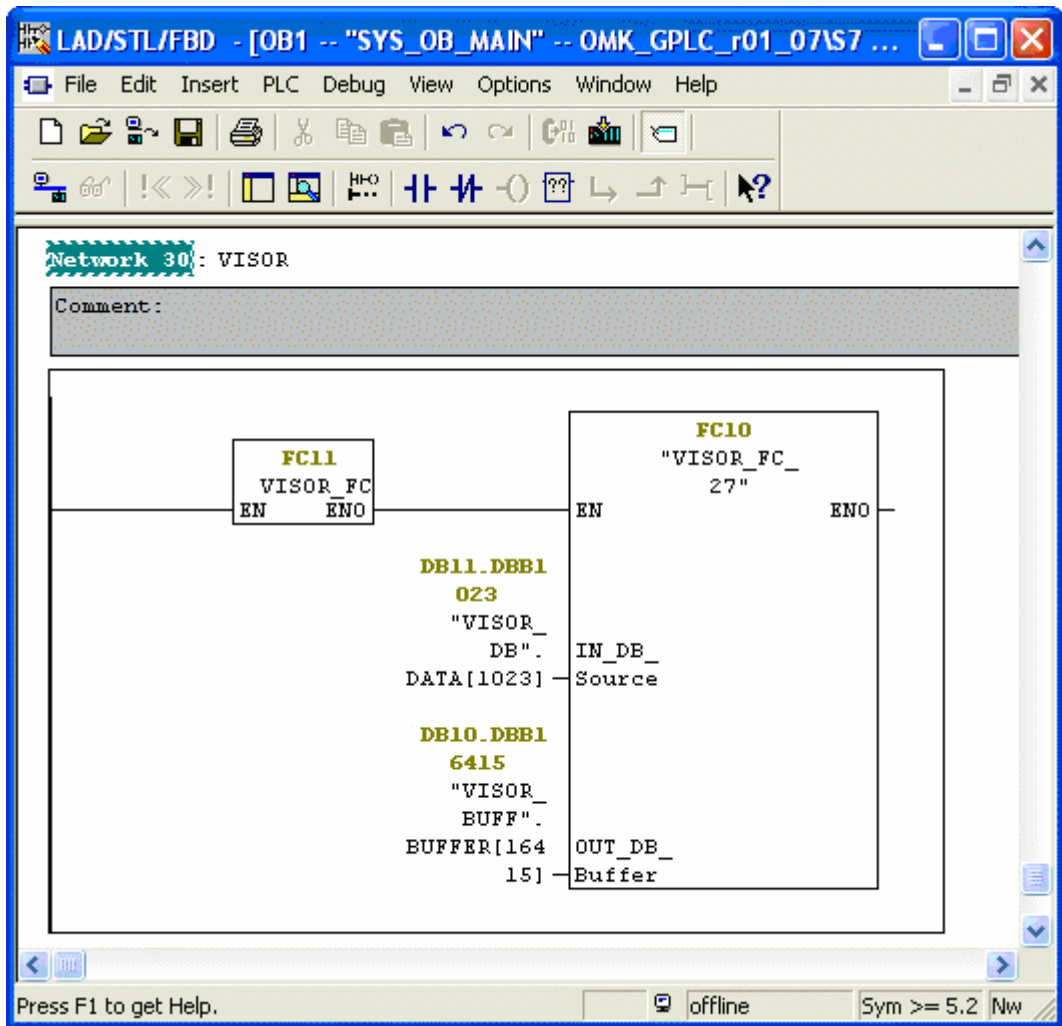

Figure 4-1. Example of functional block call for the circular buffer service
6. Create in all PLC the data block (for example DB11) and provide filling of necessary variables. If you use "SYNCHRONOUS" mode, then in addition to create in PLC the data block of the circular buffer (for example DB10) and program the call of functional block FC10 from the program cycle. Block numbers can be arbitrary. Figure 4.1 shows the example of organization in the PLC program. Block FC11 writes data to the data block DB11. The first input parameter of block FC10 "IN\_DB\_Source" describes the last read byte of source data block; the second parameter "OUT\_DB\_Buffer" describes the last byte of circular buffer data block.